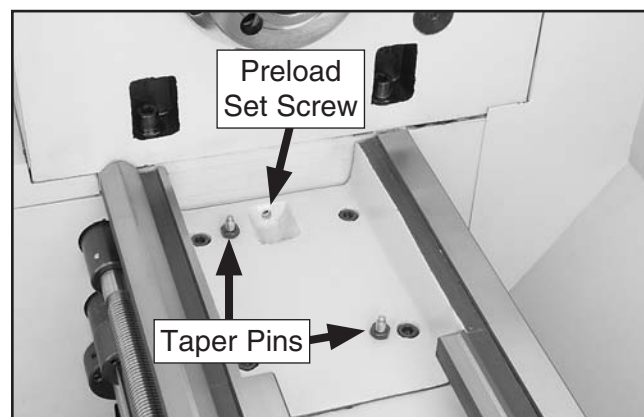

Figure 99. Lathe gap.
- Back up the preload set screw to release the locking tension on the gap (see **Figure 99**).